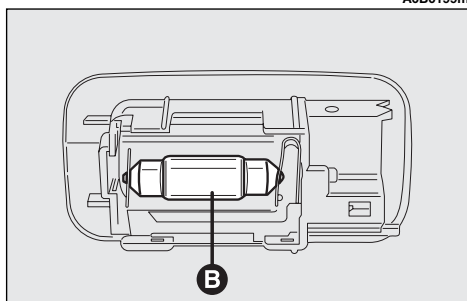

fig. 60
- Remove the bulb (**B-fig. 60**) pulling it outwards and releasing it from the side contacts.